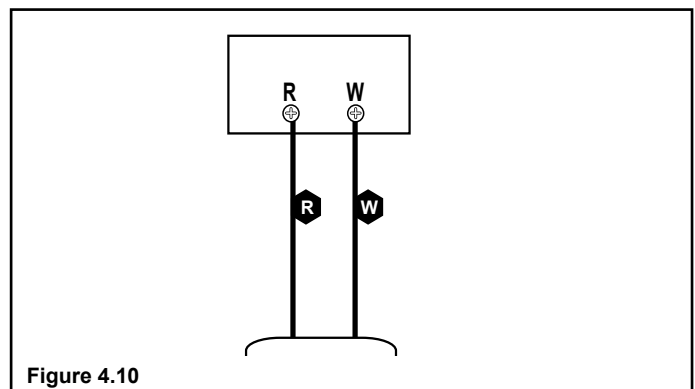

Figure 4.10
5. Connect your thermostat wire to the W and R terminals. See Figure 4.10.